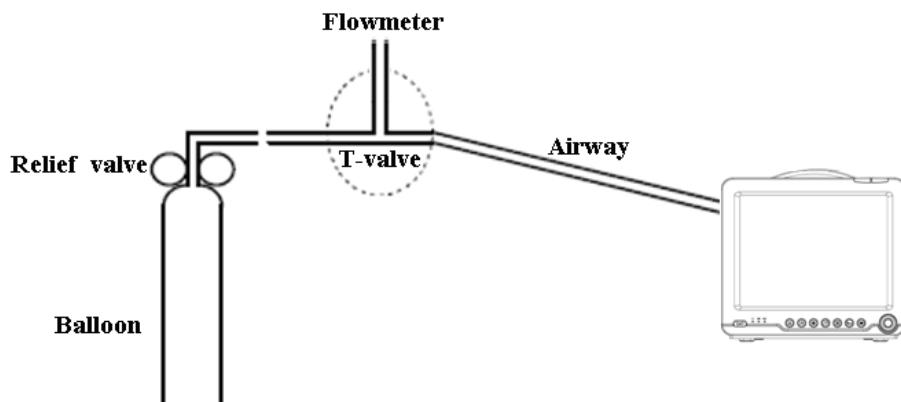

Figure 6.48 Calibration Diagram
- Connect as shown in Figure 6.48 when zero calibration is successful.